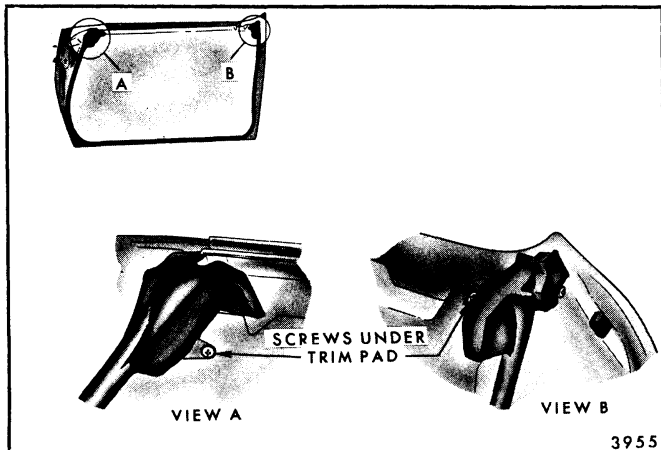

Fig. 5-21-Door Weatherstrip - Hardtop Styles
1. On all hardtop and convertible styles, remove upper portion of door trim pad to gain access to weatherstrip fasteners hidden under trim assembly and remove fasteners (Fig. 5-21).